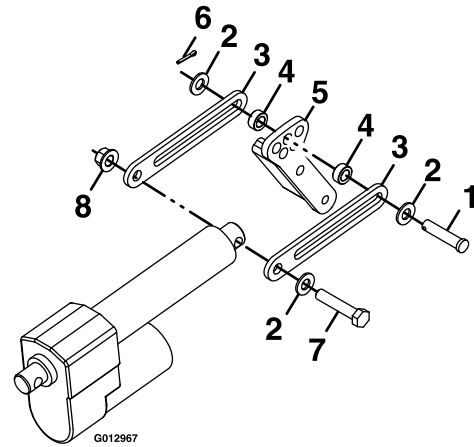

Figure 9
7. Install the rear actuator side plates as shown in Figure 9.
9. Install the actuator side plates to the actuator bracket as shown in Figure 9.